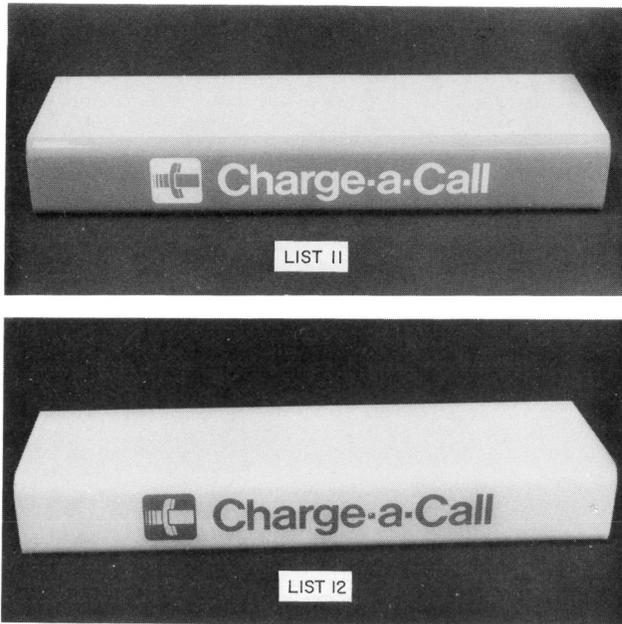

Fig. 8—KS-19681, Lists 11 and 12 Light Fixture Assembly (Diffuser)
3.21 The Lists 11 and 12 light fixtures (signs) (Fig. 8) must be ordered separately and installed with a 10A coinless telephone set as follows.